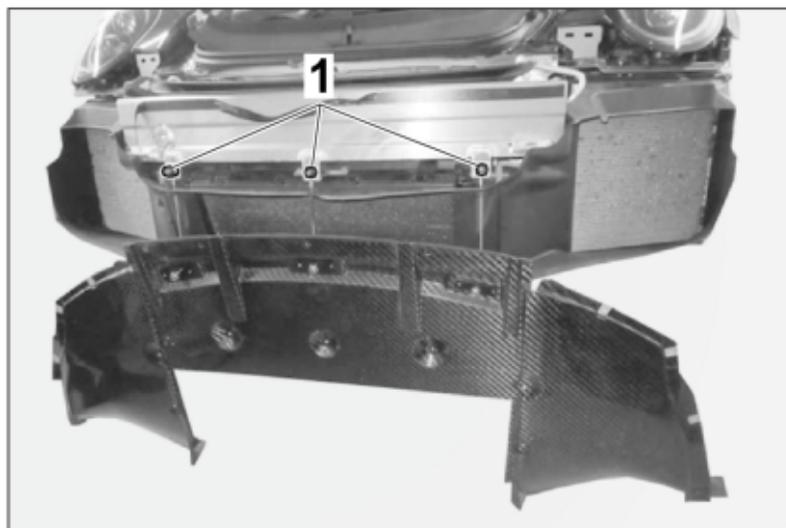

Figure 23
1. – First position the new front carbon underbody panel on the vehicle using tension cables (3 pcs.) ⇒ *Figure 23 -1-*. Check that the ring eyelet is aligned correctly. This must be inserted with the shaft in the aluminium tabs (twist lock). **Hexagon nut: Tightening torque 23 Nm (16.96 ft-lb)**